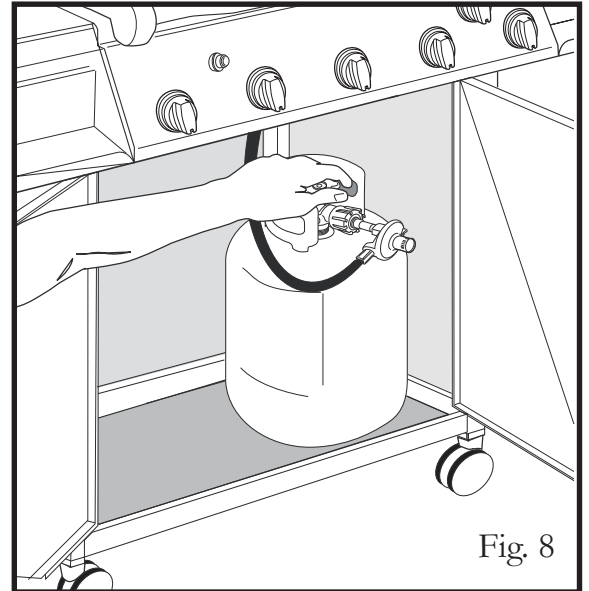
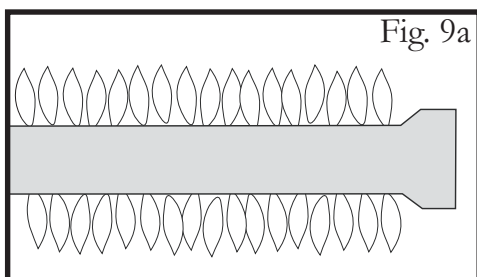

Fig. 8
Fig. 9a
3. Turn on the propane gas supply valve at the tank (1 to 2 turns) or turn on the main natural gas supply valve (see Fig. 8).
**WARNING: IF THE SELECTED BURNER DOES NOT LIGHT,** immediately turn the burner control knob to the OFF position, to prevent gas buildup. Wait five (5) minutes for the gas to clear and then repeat the preceding starting procedure. If the burner will not light when using the Igniter, follow the match lighting instructions (see Page 8).
6. Confirm that the burner is properly lit and that the flame pattern is as desired, (see Figs. 9a, 9b & 9c, for the proper flame patterns). If the flame pattern is other than normal, consult the Troubleshooting Guide on Page 23 for corrective action.
- **WARNING:** IF THE ROTISSERIE BURNER DOES NOT LIGHT, immediately turn the burner control knob to the OFF position, to prevent gas buildup. Wait five (5) minutes for the gas to clear and then repeat the preceding starting procedure. If the burner will not light when using the Igniter, follow the match lighting instructions below.
6. Confirm that the burner is properly lit and that the flame pattern is as desired, (see Figs. 9a, 9b & 9c, for the proper flame patterns). If the flame pattern is other than normal, consult the Troubleshooting Guide on Page 22 for corrective action.